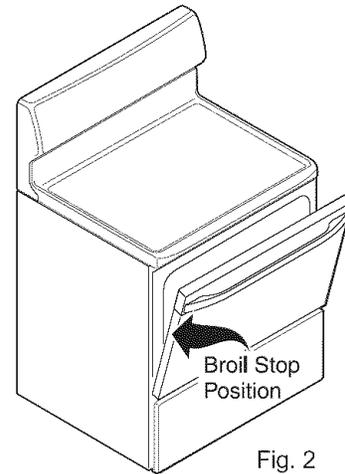

Fig. 2
6. Place the pan on the oven rack. **Open the oven door to the broil stop position** (See Fig 2).
- In the **downward position** to allow you to place light weight food items and empty dishware (for example, rolls or pastries and dinner plates - See Fig. 2).